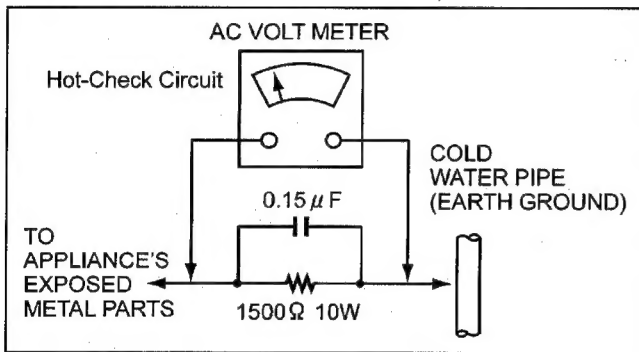

Figure1
LEAKAGE CURRENT HOT CHECK (See Figure 1)
2. Connect a 1.5Ω , 10W resistor, in parallel with a $0.15\mu F$ capacitor, between each exposed metallic part on the set and a good earth ground such as a water pipe, as shown in Figure1.